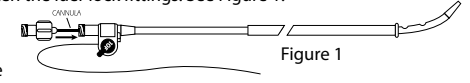

Figure 2
7. Place catheter/cannula assembly over appropriate guide wire and advance into the biliary system. Disconnect stiffening cannula from catheter and continue to advance catheter over guide wire into desired position. The catheter accommodates a 0.038" (0.97mm) wire. See Figure 2. Placement should be confirmed with diagnostic imaging.